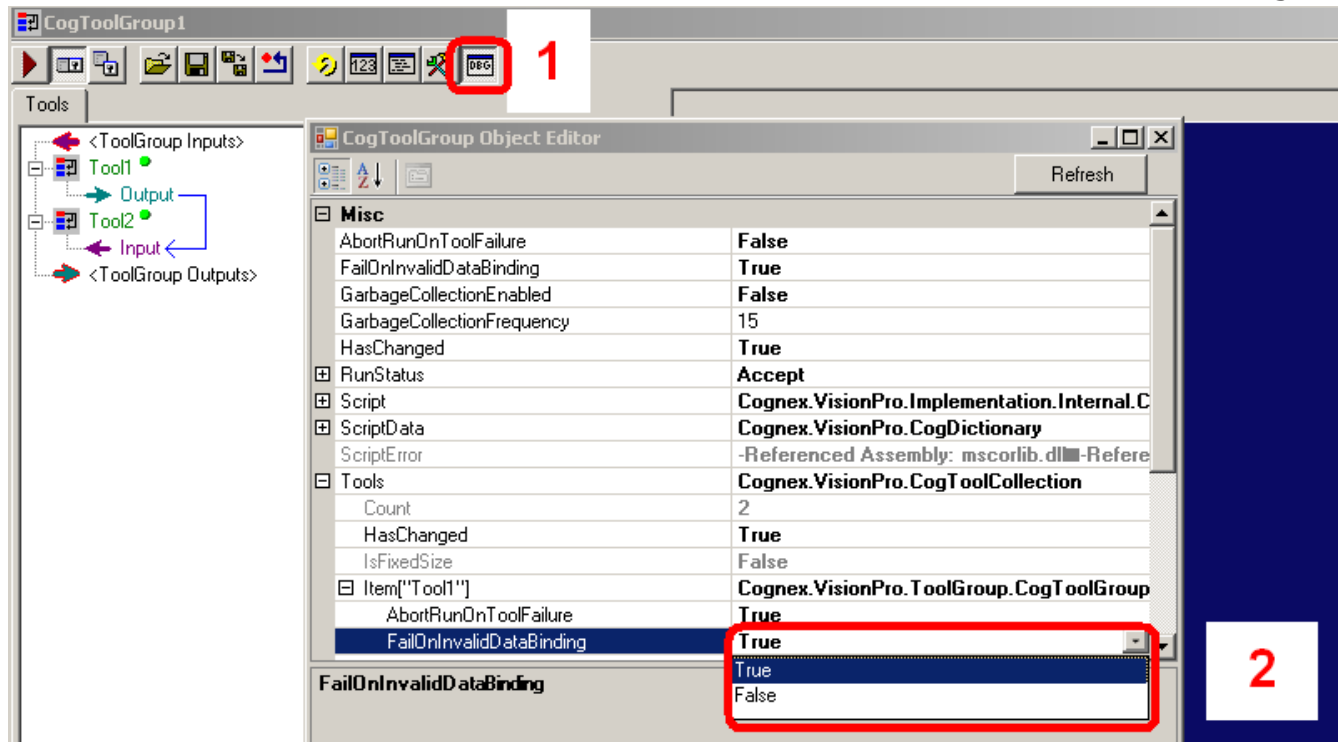

Figure 4: Object browser showing *FailOnInvalidDataBinding* property for *Tool1*.
The default value of FailOnInvalidDataBinding is true. You can change the value of this property as shown in Figure 4.
- Set the **FailOnInvalidDataBinding** property of the SWRAT to **false**. See Figure 4 on how to configure this.